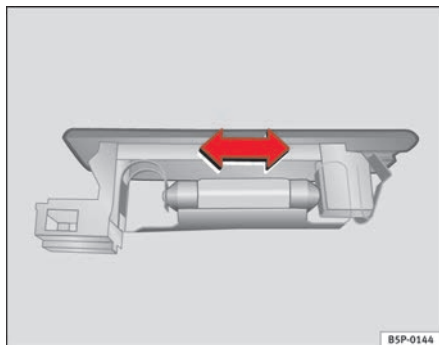

Fig. 175 Luggage compartment light
- Press the lamp sideways and remove it from its housing ⇒ fig. 175.